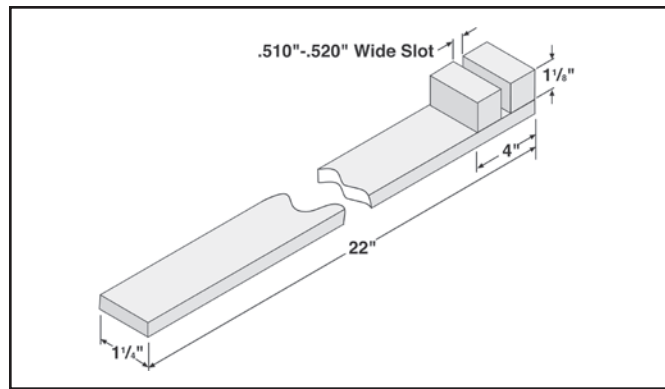

Figure 5
- S&S® Rod Checking Pin, Part #53-0002, was designed to help perform this procedure. It may also be necessary, to fabricate a rod bending tool as illustrated in **Figure 5, next page.**